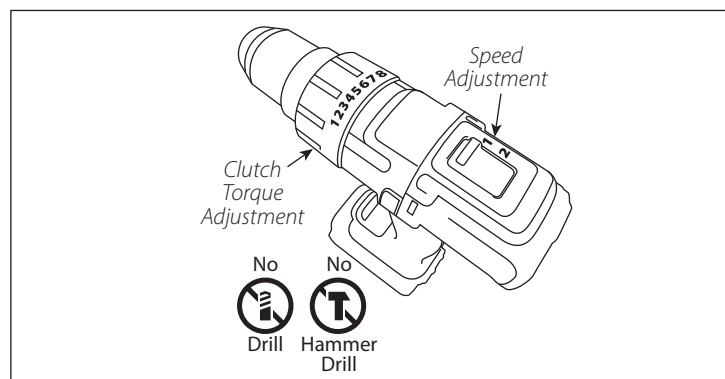

FIGURE 6
3. Set the drill to the lowest speed setting (Level "1" or "Lo" on most drills). **SEE FIGURE 6** Failure to do so may cause loss of control of the tool.
SEE FIGURE 6